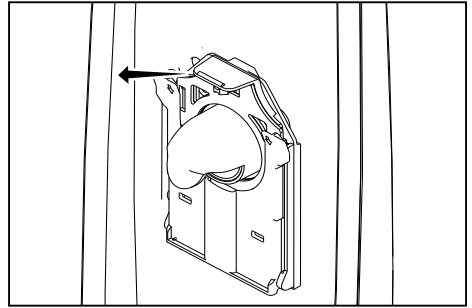
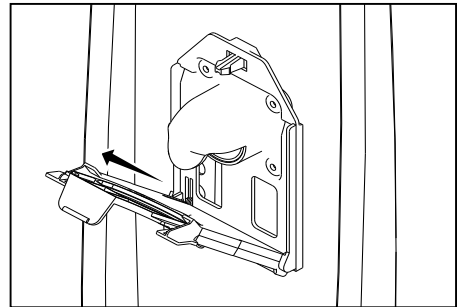

Fig. 1
Fig. 2
- Remove the used vacuum bag by pulling the green bag collar tab away from the vacuum (Fig. 1). Slide the used bag out of the bag holder which automatically seals the bag opening (Fig. 2). Discard the used bag.